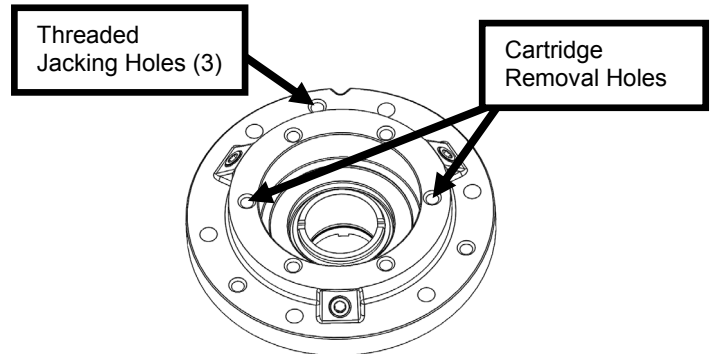

Figure 1 – Removal Capscrew Location – Plan 53
2. Remove cartridge capscrews (22) from head ring (20)
3. Thread 2 capscrews into opposite, blind threaded holes as shown in Figure 1. Attempt to gently removed seal cartridge from head ring (20) and rotor/shaft (13) using capscrews as handles.